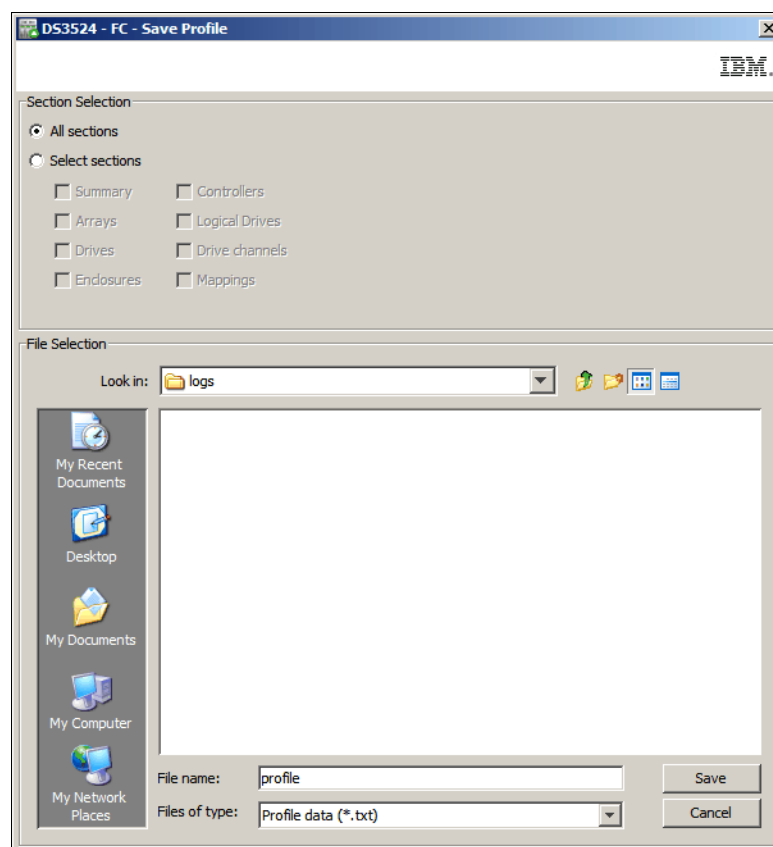

Figure 14-18 Save Profile
4. To save the profile, click the **Save As** button. At the top of Figure 14-18, choose which sections of the profile that you want to save. By default, the tab that you were viewing will be selected, and you can select any other tabs that you want. The general rule is to select the **All Sections** option.